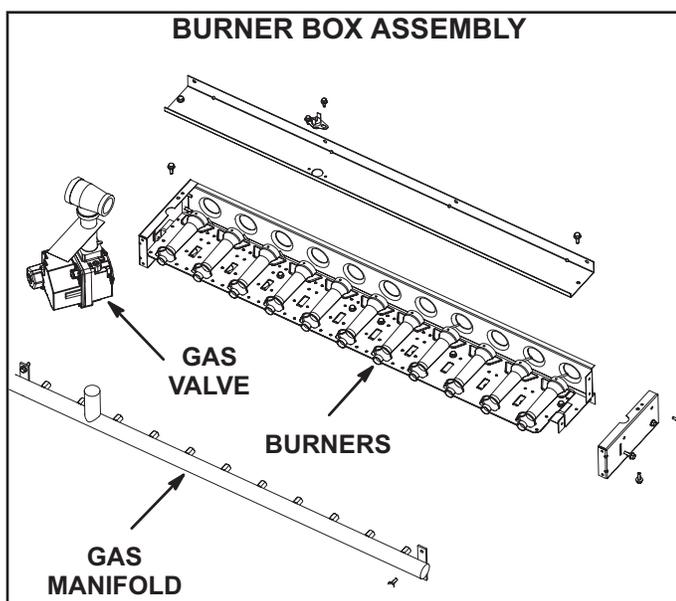

FIGURE 39
- 3 - Remove screws securing burners to burner support and lift the individual burners or the entire burner assembly from the orifices. See FIGURE 39. Clean as necessary.